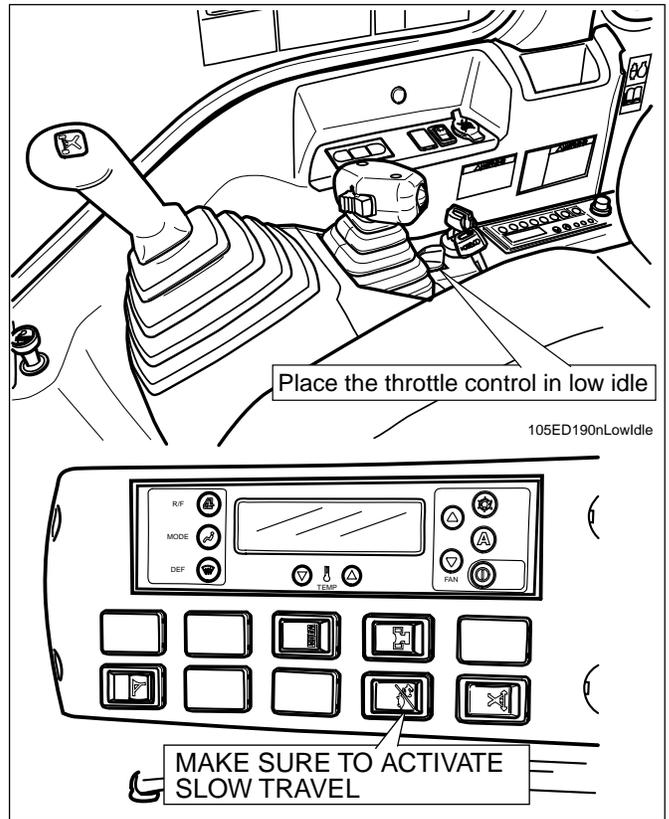

FIGURE 5.3A
- Place travel speed select switch on travel lever in 1st (🐢) speed position and move throttle control to the "LOW" idle position. See Figure 5.3A.